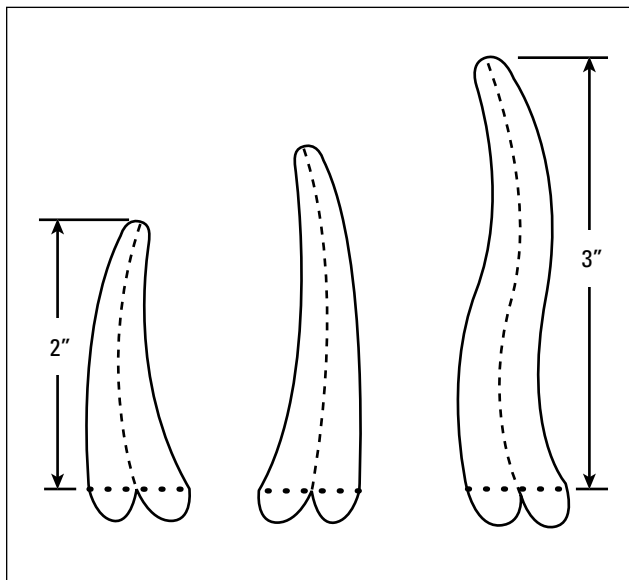

Figure 9-7:
1. Draw 9 to 12 blades of grass on your white card, modeling them after Figure 9-7.